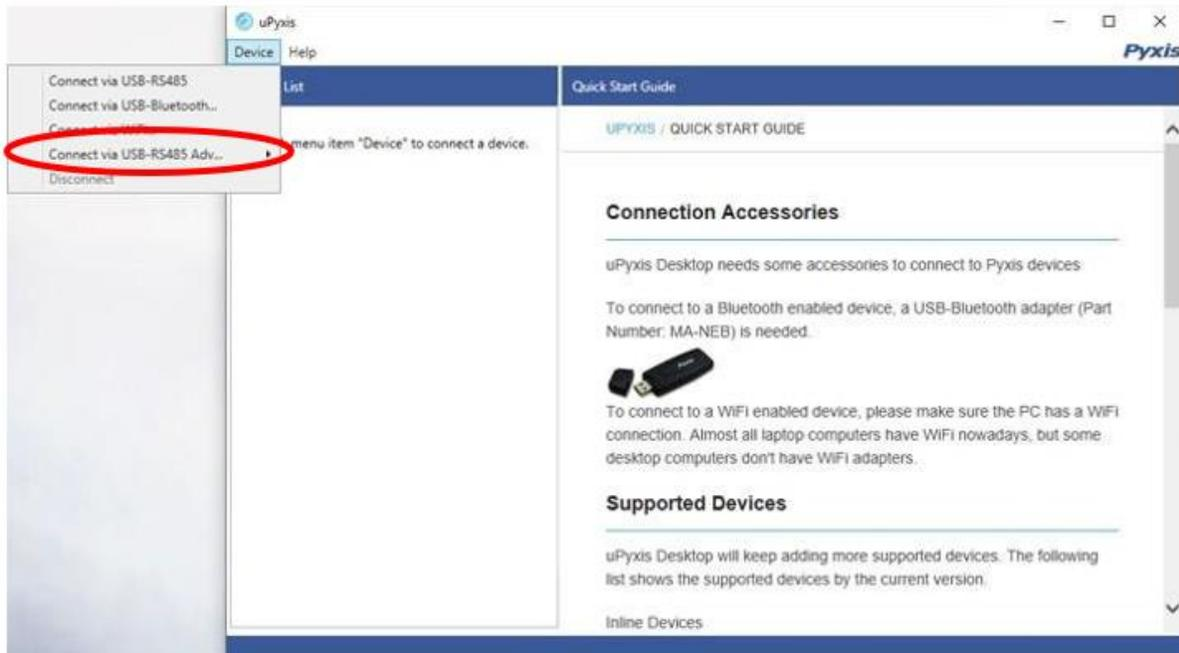

Figure 12. Connection Options
6. Select Connect via USB-RS485 (Figure 12).